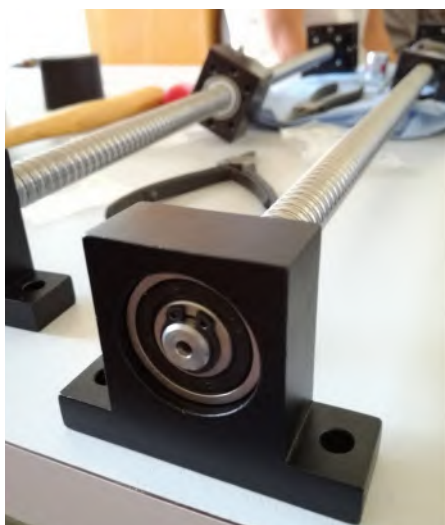
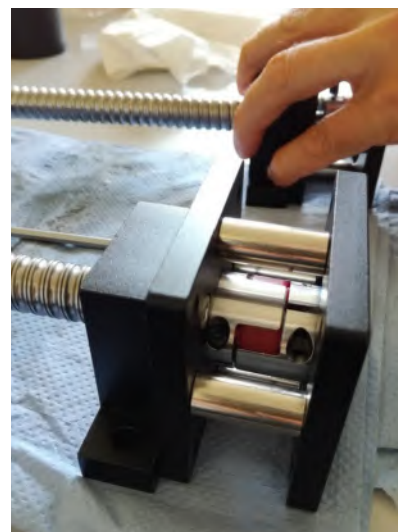

Figure 22: Assembled floating bearing
Figure 23: Fixed bearing, motor holder and motor coupler.
- 8.2. Assemble all parts as seen in Figure 22 and Figure 23.